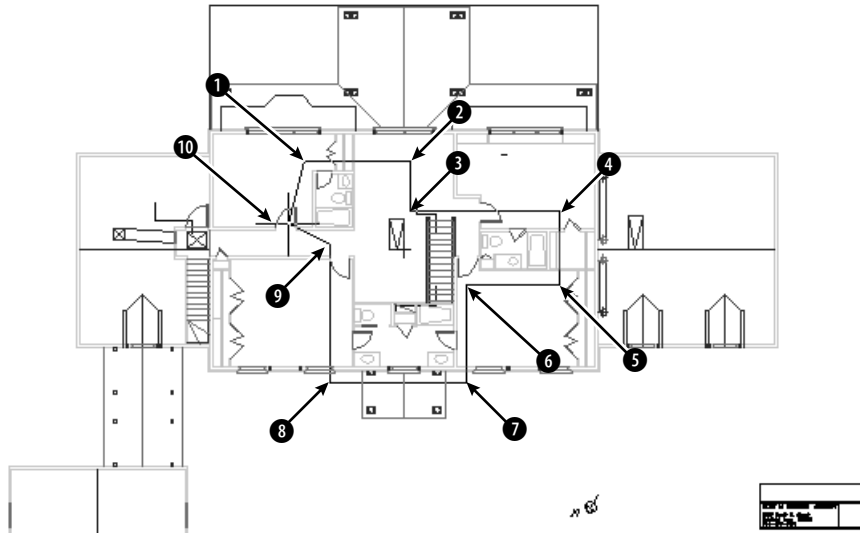

Figure 19-11: Picking a polygonal boundary to clip an xref.
5. Open ab19-02.dwg from your AutoCAD Bible folder. This drawing has an attached xref of a house plan and a nested xref of a title block, as shown in Figure 19-11.
Select objects: *Pick anywhere on the xref in Figure 19-11.*
Specify first point: *Pick ① in Figure 19-11. It might help to turn off OSNAP if it is on.*